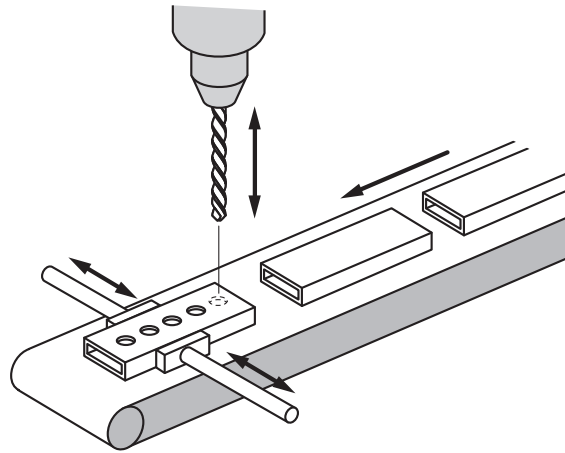

Figure Q4(a)
4. The drilling jig shown in Figure Q4(a) is controlled by a sequential control system which sets the position for drilling 5 holes in a bracket. A conveyor brings the bracket to a clamp, which holds the bracket in position whilst drilling takes place.
The sequence of operations for the drilling jig is shown in Figure Q4(b).